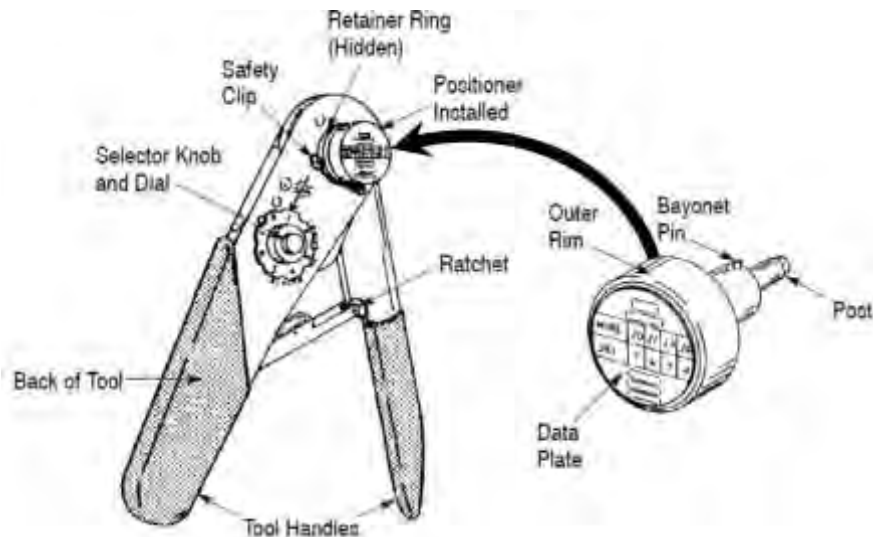

Figure 10
b. M2520/2-01 (Figure 10)
- (1) Squeeze the tool handles together, then allow the handles to FULLY open.
- (2) Insert the post of the positioner into the hole in the back of the tool. Make sure the bayonet pin enters the slot in the retainer ring of the tool.
- (3) Firmly grip the outer rim of the positioner and push until the spring inside the positioner is depressed, then rotate the positioner clockwise until it stops.
(4) Insert the tool safety clip into the retainer ring to lock the positioner in place.